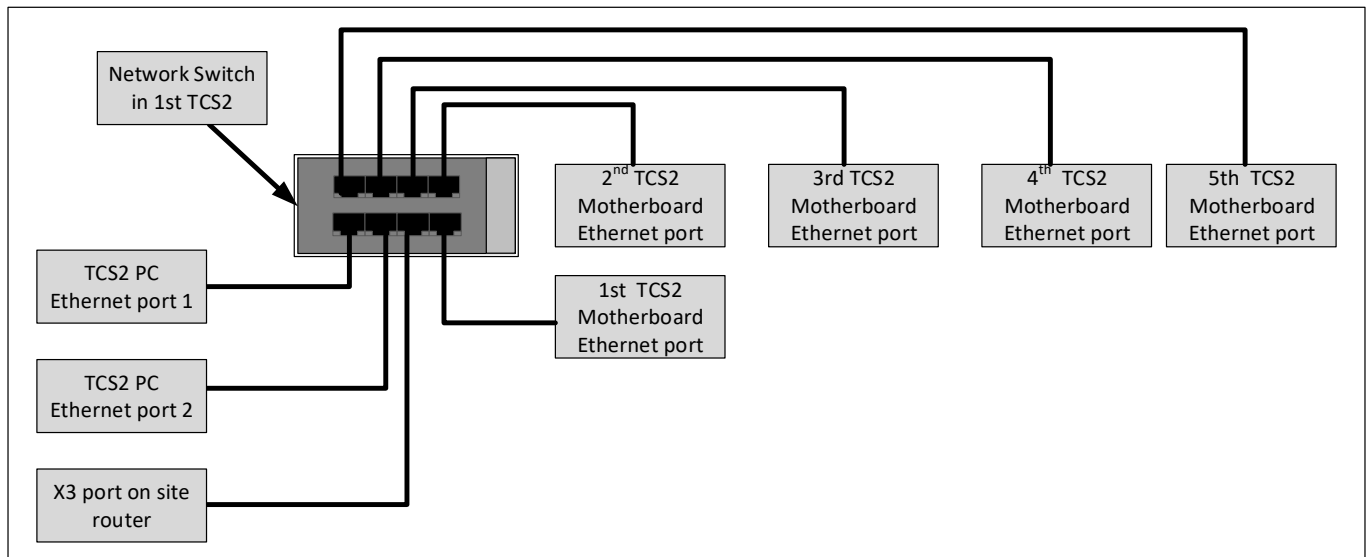

Figure 18: One Primary TCS2/One or More Secondary TCS2 Units
- See Figure 18: One Primary TCS2/One or More Secondary TCS2 Units.